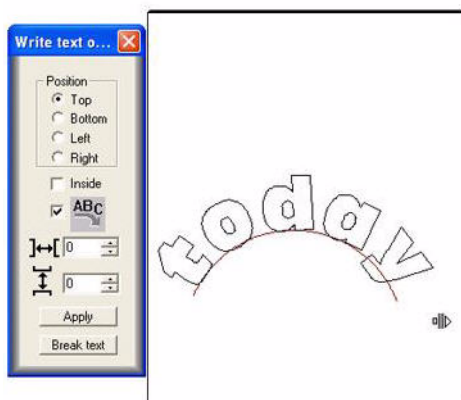
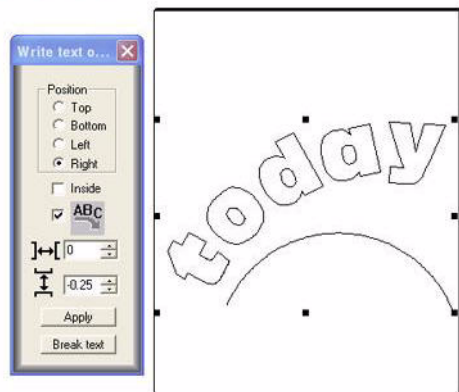

Figure 145 Example of text curved to the top
Figure 146 Example of text curved to right
- 6** In the **Write Text on...** box, select the location on the arc where you want to write the text: top, bottom, left, or right. See figure 145 and figure 146.